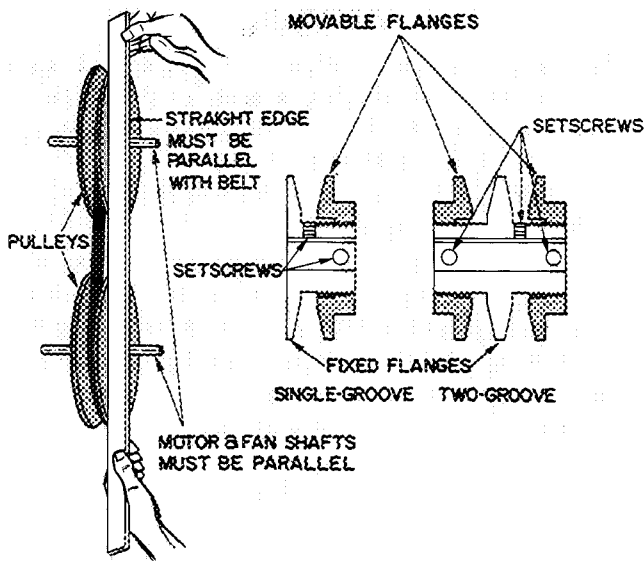

Fig. 14 — Indoor Blower Pulley Alignment and Adjustment
3. Loosen movable pulley flange setscrew (see Fig. 14).